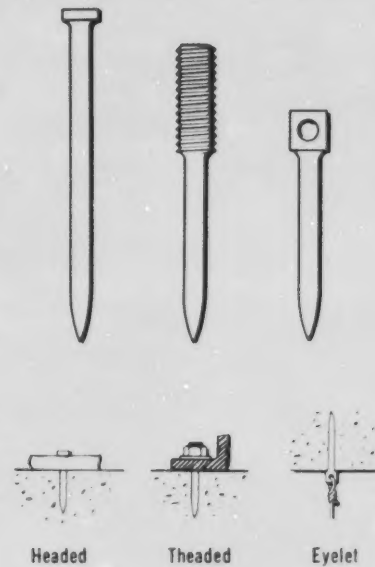

Figure 20-1. Three Basic Fasteners
a) The three basic types of fasteners are shown in Figure 20-1. Consult your manufacturer's instructions for the types, sizes, and charges that are available for the particular tool you are using.